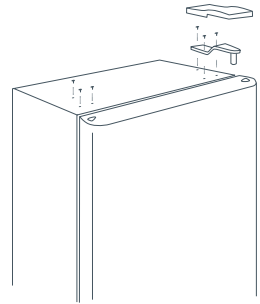

Figure 1
- Remove the top hinge bracket screws using a 'Philips' screwdriver and remove the top hinge bracket, ensuring that the door is held firmly. (Refer Figure 1).